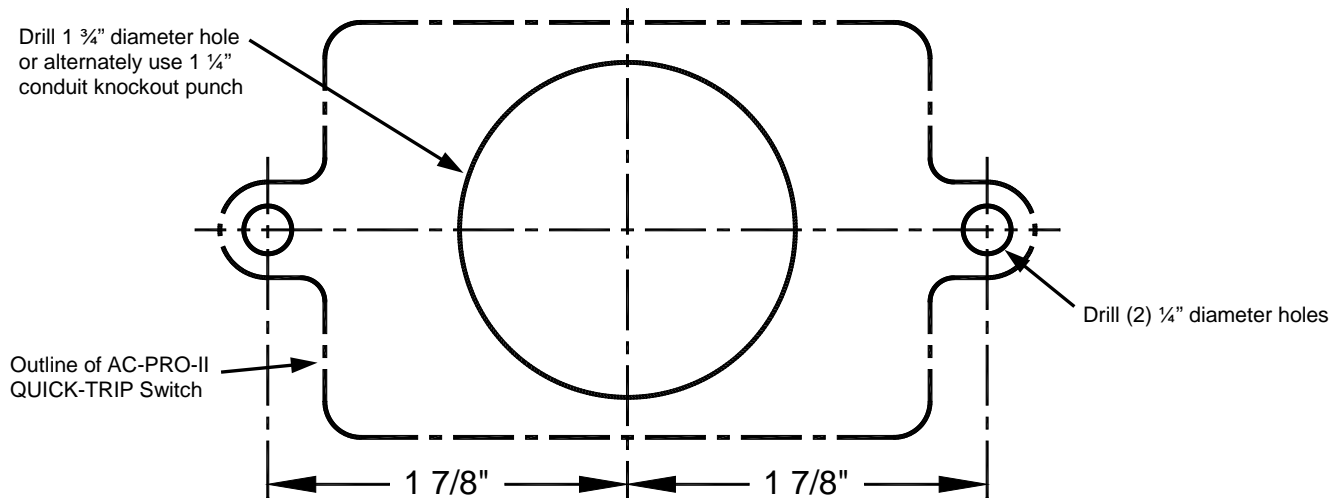

Figure 7.2: AC-PRO-II QUICK-TRIP Switch Drilling Plan
1. Find a suitable location on the cubicle door and mark the location of the three (3) holes using the dimensions in Figure 7.2.
2. Drill two (2) 1/4" mounting holes.
4. Attach the QUICK-TRIP Switch to the front of the cubicle door using the two (2) supplied 10-32 screws and lock washers.